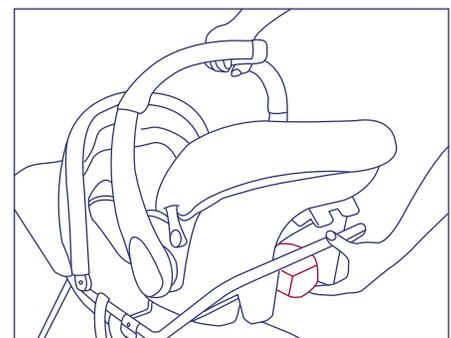

Fig. 5
2. With one hand, grasp the car seat handle (in its upright, carrying position) and with your other hand squeeze the handle on the back of the car seat and lift the car seat upward from the Double Snap-N-Go® frame. See Figure 5.